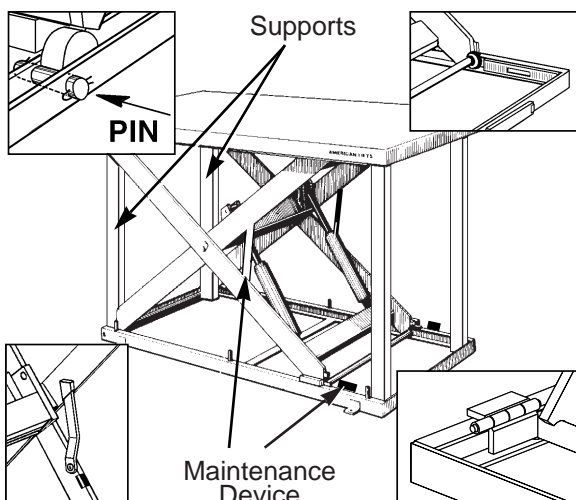

Fig. 5
Before opening any part of the hydraulic system or disconnecting hoses or fittings, **RELEASE THE HYDRAULIC PRESSURE** (see figure 5). Always use caution when disconnecting any hydraulic components! Assume there may be some residual pressure remaining in the system.
A falling lift can cause severe personal injury or death. Before working under the lift, **RAISE THE LIFT AND ENGAGE THE MAINTENANCE DEVICE, AS SHOWN IN** (applicable insert, figure 5). Do this every time you work under the lift!
- If lift does not have built in maintenance devices, block platform as shown on page 7, Figure. 5.
Lubrication Points. Lubricate with lift unloaded and meeting requirements in Fig. 5.